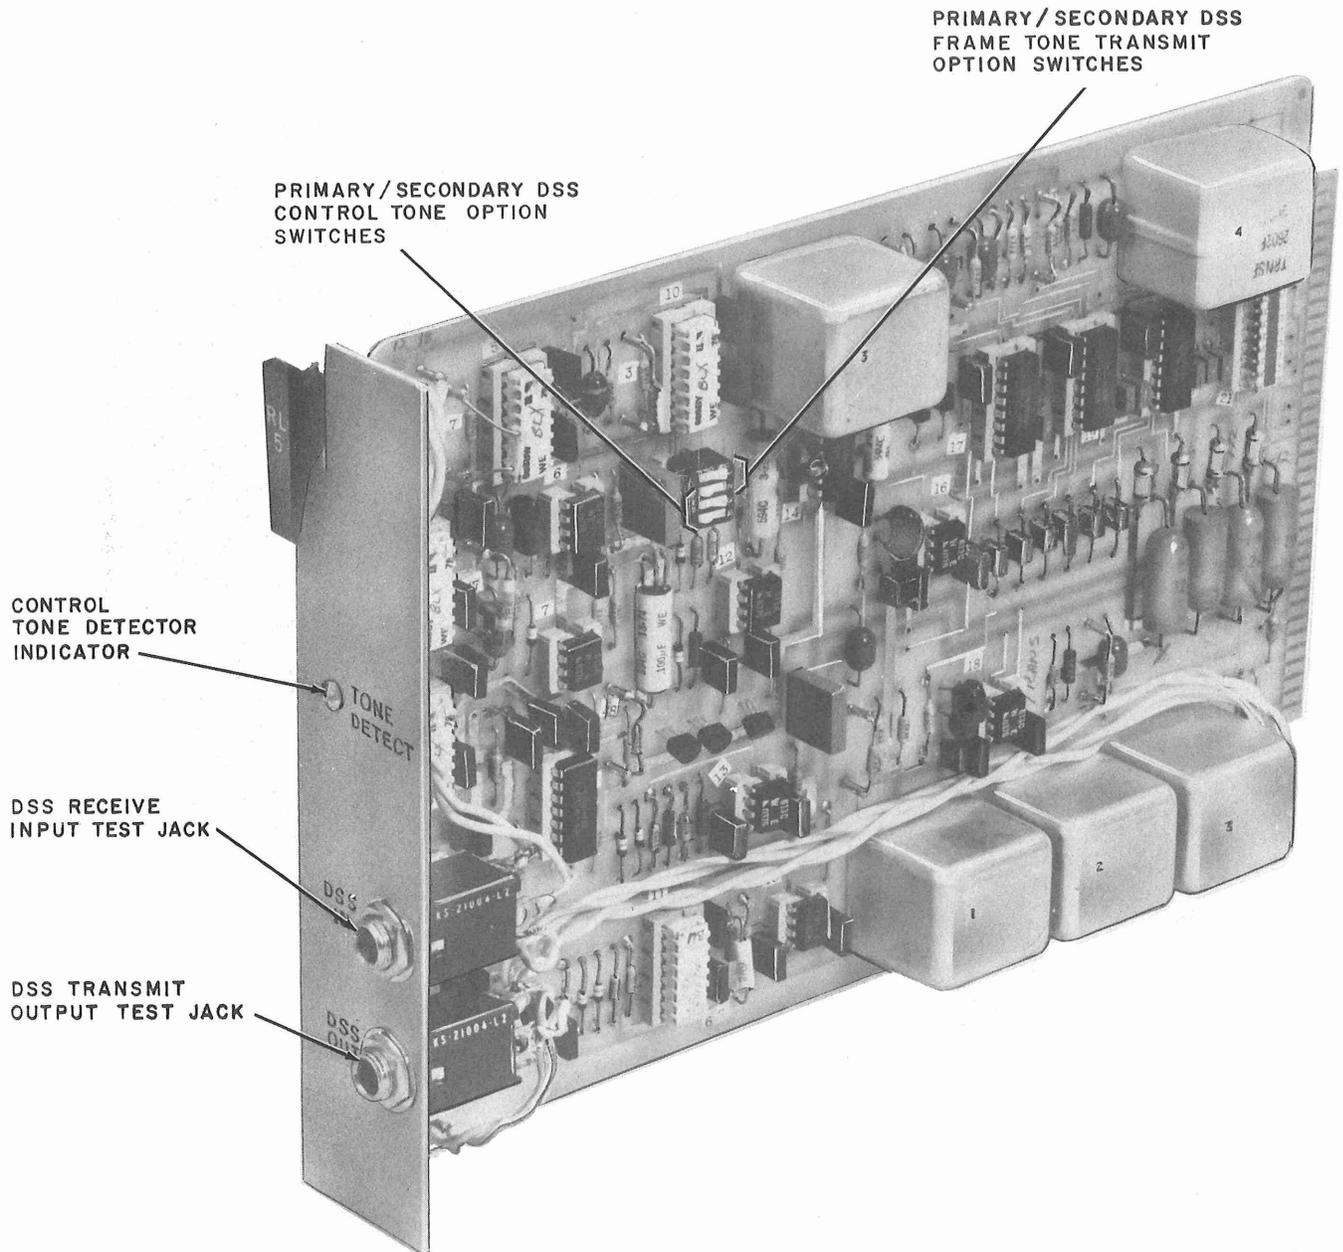

Fig. 7—RL5 CP—Analog Control Circuit
2.06 RL5 CP (Fig. 7): This circuit pack has two jacks (DSS IN, DSS OUT) and a TONE